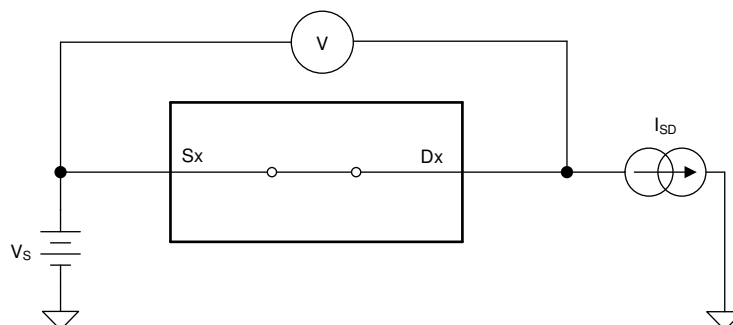

图 7-1. On-Resistance Measurement Setup
The on-resistance of a device is the ohmic resistance between the source (Sx) and drain (Dx) pins of the device. The on-resistance varies with input voltage and supply voltage. The symbol R_{ON} is used to denote on-resistance. The measurement setup used to measure R_{ON} is shown in 图 7-1. Voltage (V) and current (I_{SD}) are measured using this setup, and R_{ON} is computed as shown below with $R_{ON} = V / I_{SD}$: